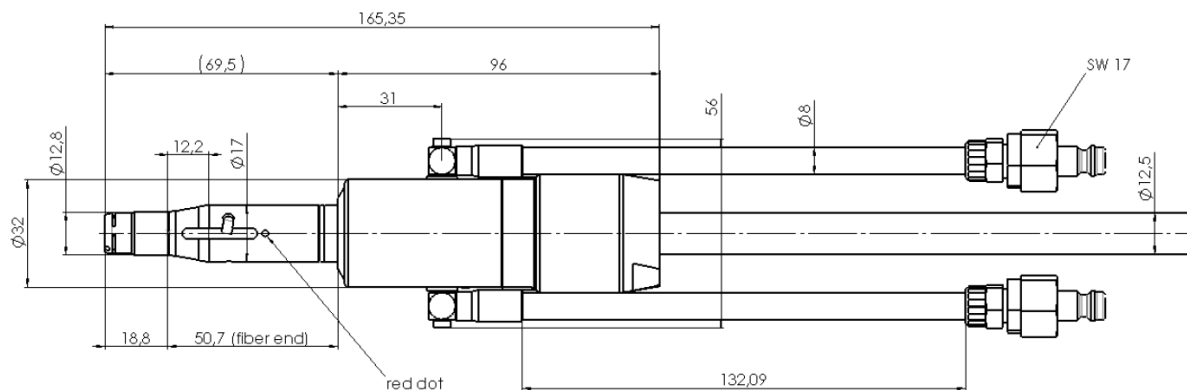

Figure 7.4: Outline Drawing: LLK-Q Beam Delivery System
(1) Refer to table 4.1.1 for fibre type definitions
(2) The XY positioning accuracy of the fibre with respect to the mechanical housing
(3) Optical fibre end position is defined in Figure 7.4